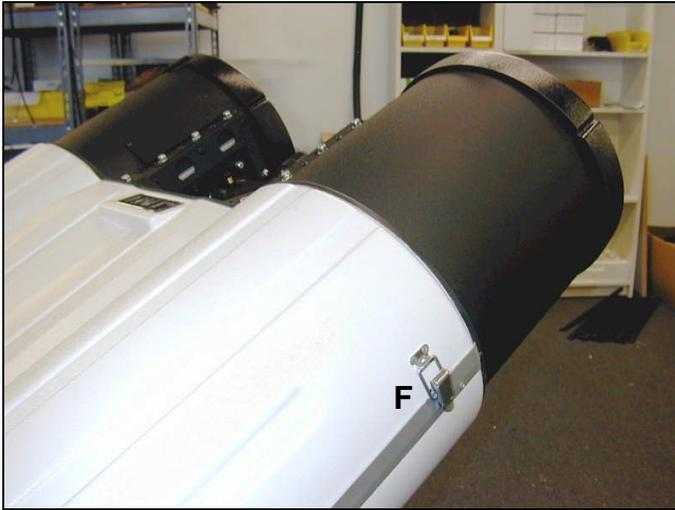

Figure 3
7. There are three latches (Figure 3) that hold the top cover onto the bottom cover. One is in the back and the other two are on either side of the cover near the front of the binocular assembly. Release the latches (3-F), lift the cover off and set it aside.